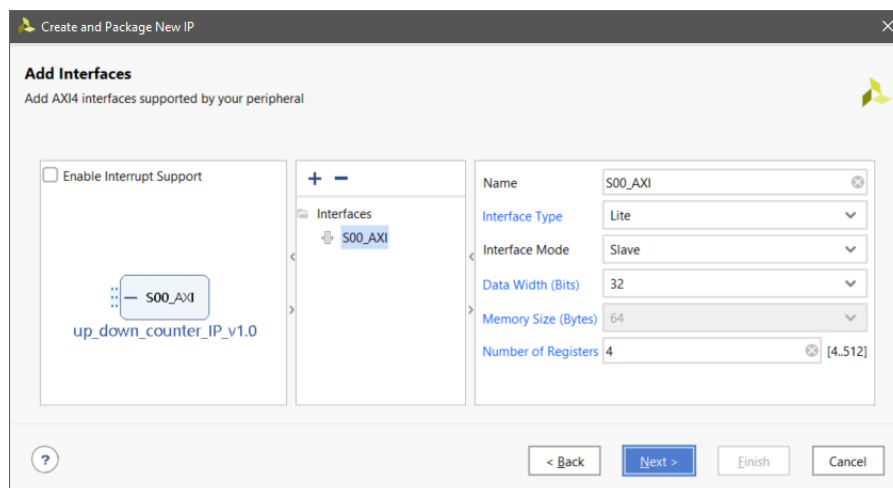

Figure 4
10. In the **Add Interfaces** pages, accept the default settings and click **Next** (Figure 4)